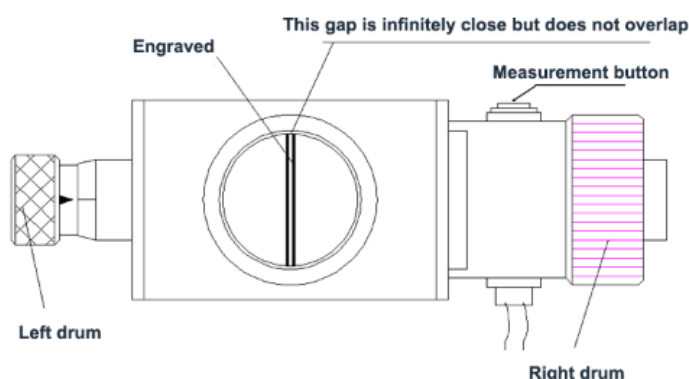

Figure 5.3 Measuring eyepiece
7) Turn the indenter (6) to the front position. You should feel that the turret (10) has been positioned. When rotating, you should proceed carefully and slowly to prevent impact from being too fast. At this time, the top of the indenter and the focused sample the distance between the planes is about 0.4 to 0.5 mm.
9) Turn the 40× objective lens (11) to the front, then you can measure the diagonal length of the indentation in the micrometer eyepiece (8). If the indentation is not clear, you can slowly raise or lower the test table to make it Clear; if the two engraved lines in the micrometer eyepiece (8) are blurred, the eyecup on the micrometer eyepiece can be adjusted, which is determined by each person's vision.
11) Rotate the right drum and move the engraved line in the eyepiece to gradually move the two engraved lines closer together. When the inner side of the engraved line is infinitely connected Near time (the inner side of the reticle is in a critical state with no optical gap, but the two reticles must not overlap). See Figure 5.3